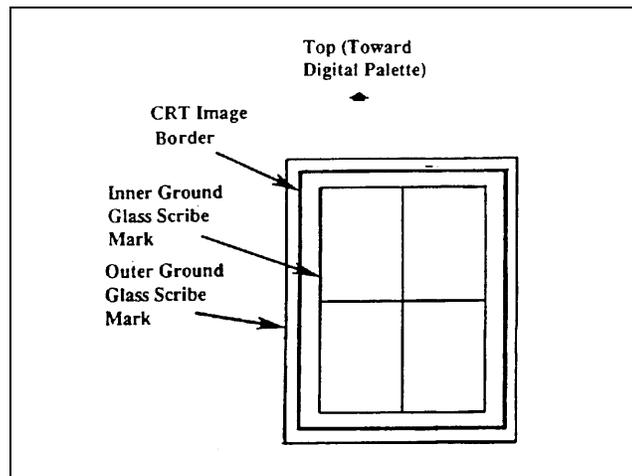

Figure 4-42. Scribe Marks on the Alignment Gauge
2. Carefully move the CRT until the tennis court image is aligned with the scribed marks on the alignment gauge (Figure 4-42).